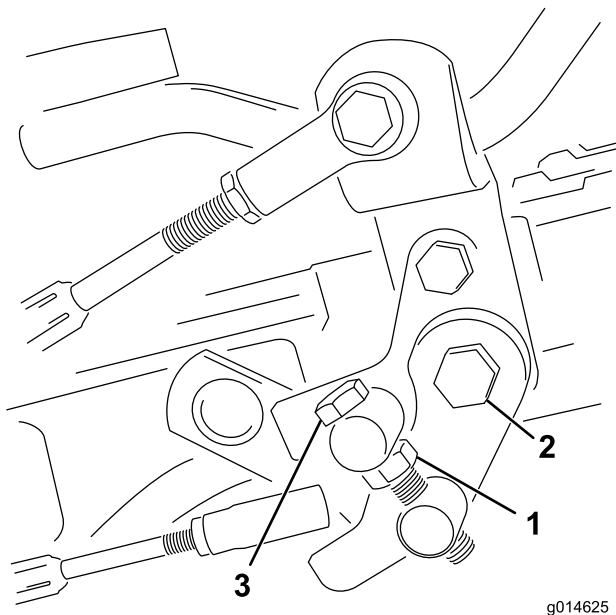

Figure 50
1. Loosen the jam nut on the trunnion bolt (Figure 50).
4. Tighten the jam nut on the trunnion bolt and the nut on the pedal pivot to lock the adjustment (Figure 50). Check the adjustment and adjust as required.